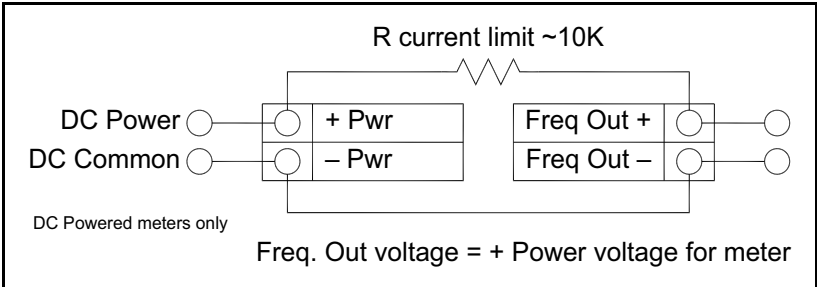

Figure 36: Non-Isolated Frequency Output Using Input Power Supply
- For DC powered meters only, use the flow meter power supply (see *Figure 36 on page 41*). Use this option if the voltage at the flow meter power supply is an acceptable driver voltage for the connected load, taking into account that the current used by the frequency load comes from the meter's power supply.